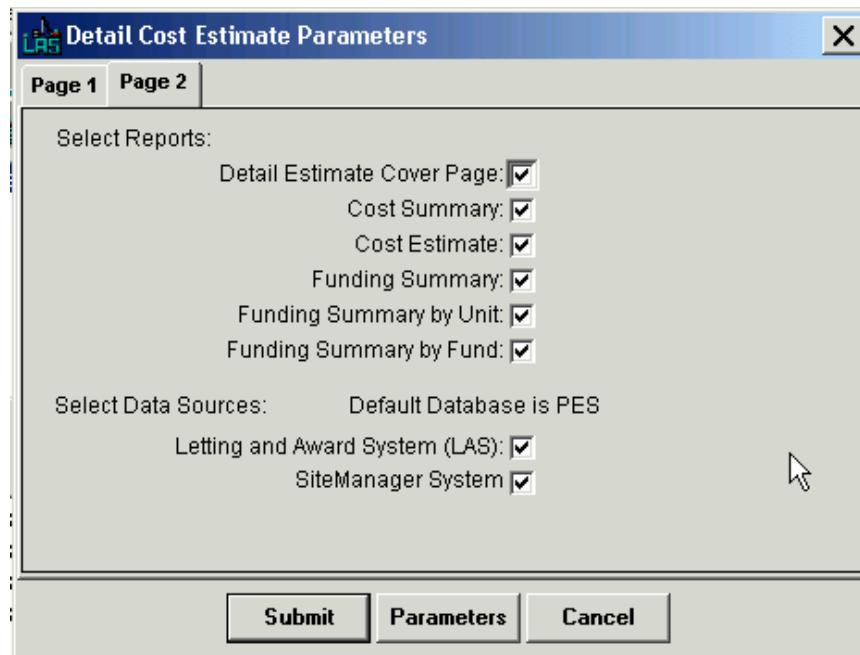

Figure 10-10. Detail Cost Estimate Parameters Window
5. Click SUBMIT to run the process (see Figure 10-10).